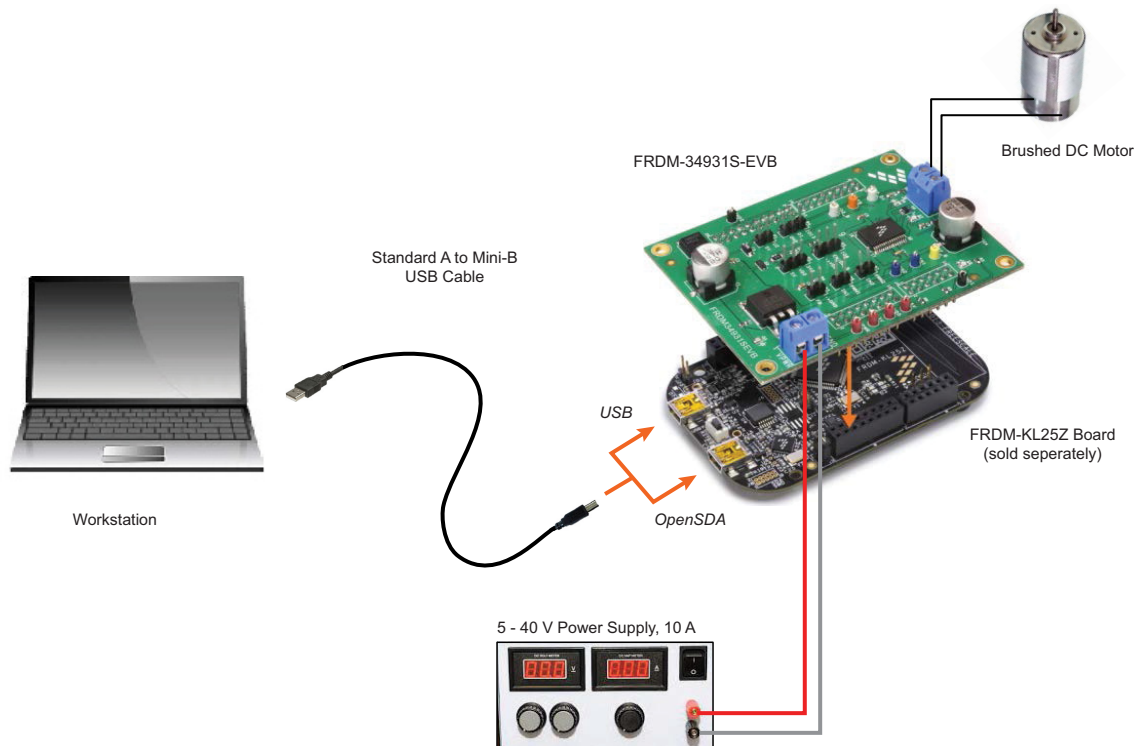

Figure 14. FRDM-34931S-EVB / FRDM-34931-EVB with FRDM-KL25Z Hardware Configuration
1. Connect the function generator to the board. There are two options, depending on whether you want to control the enabling and disabling of the MC34931S/MC34931 H-bridge outputs (Option 1), or whether you want the H-bridge outputs continuously enabled (Option 2) while the board is connected to the function generator. Figure 14 illustrates how to set the jumpers and connect to a function generator (or an MCU) for each of these options.
Figure 14 illustrates the hardware configuration.